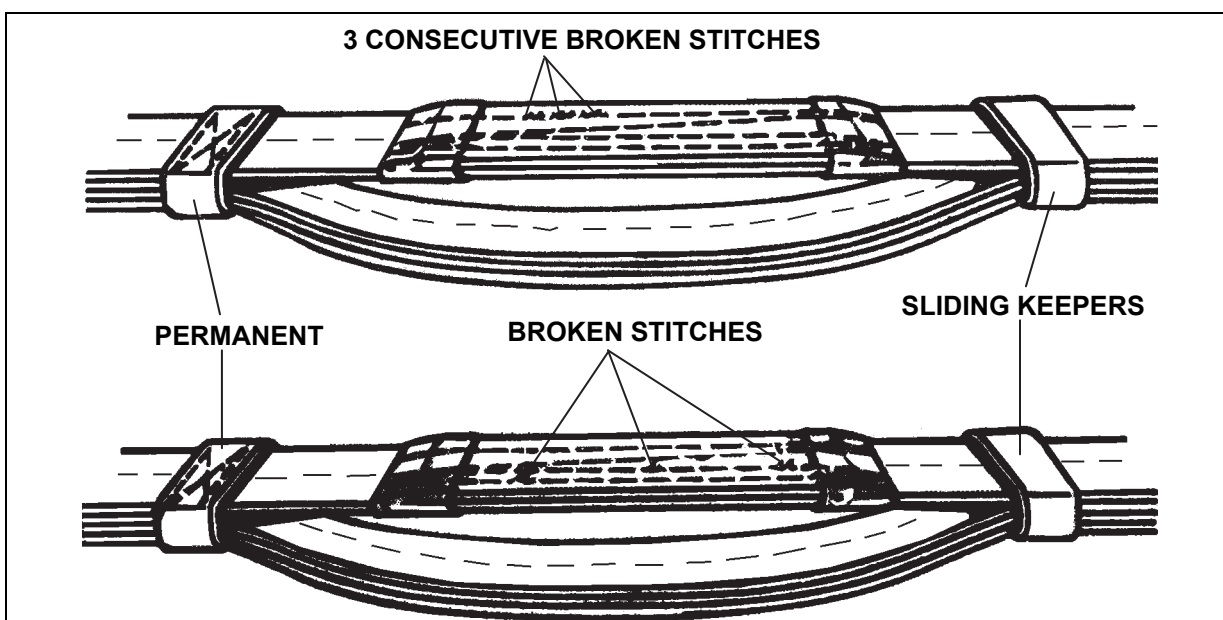

Figure 6-43. Sling with Broken or Loose Stitches
- **Inspection, Maintenance, and Storage.** The two ends of each loop of nylon flat-web slings are sewn together. Figure 6-43 illustrates the sewn splice and how to inspect for broken or loose stitches. Use the requirements and criterion of the 15,000-pound multileg sling set when marking, inspecting, cleaning, and storing the aerial delivery slings and multiloop lines.